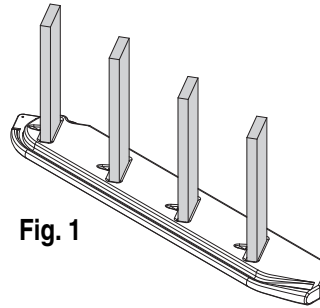

Fig. 1
2. Insert three 2" x 6" x 23½" standard steps into the remaining holes until they are flush with the outside of the side rail. **(Fig. 1)**
1. Align top of Climbing Wall at right angle 90°. Lip of climbing wall should rest on the play deck 1½". Using the Climbing Wall as a template, mark play deck through the three holes in the climbing wall. Drill three ⅝" holes at marked locations. (Fig. 1)
1. Tie five knots, equally spaced, for climbing grips. (Fig. 1)